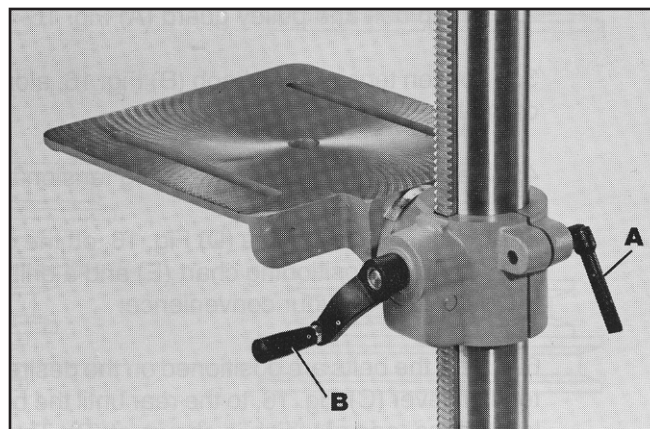

Fig. 19
1. The table can be raised or lowered on the drill press column by loosening the table locking lever (A) Fig. 19, and turning the table raising and lowering handle (B). After the table is at the desired height, tighten locking lever (A). NOTE: Final positioning of the drill press table should always be from the bottom to the up position.
2. The table can be rotated 360 degrees on the column by loosening locking lever (A) Fig. 19, rotate table to desired position and tighten locking lever (A).